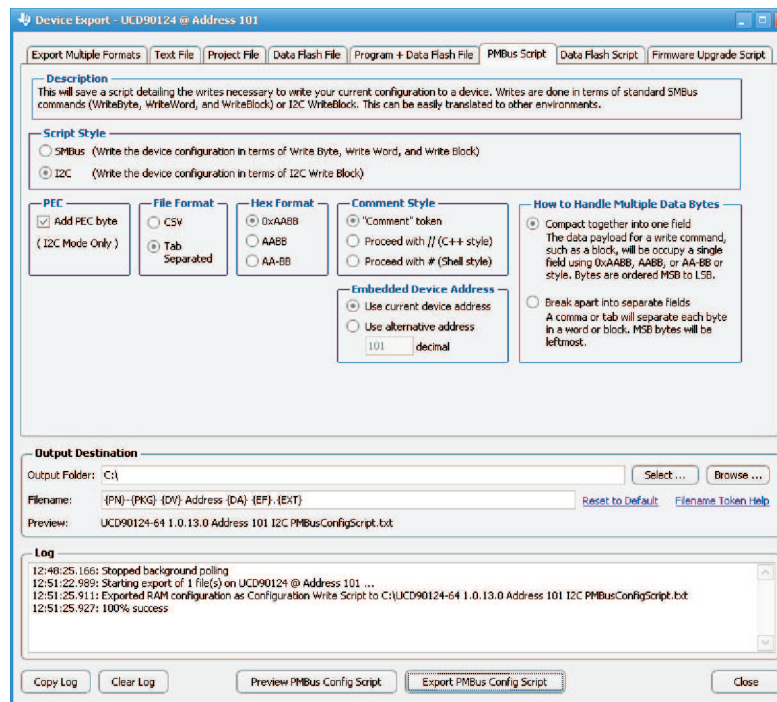

Figure 27. Fusion GUI PMBus Configuration Script Export Tool
2. The *Fusion GUI* (Figure 27) can create a PMBus or I²C command script file that can be used by the I²C master to configure the device. This method may cause unexpected behaviors on GPIO pins which can disable rails that provide power to device. It is not recommended for production programming.